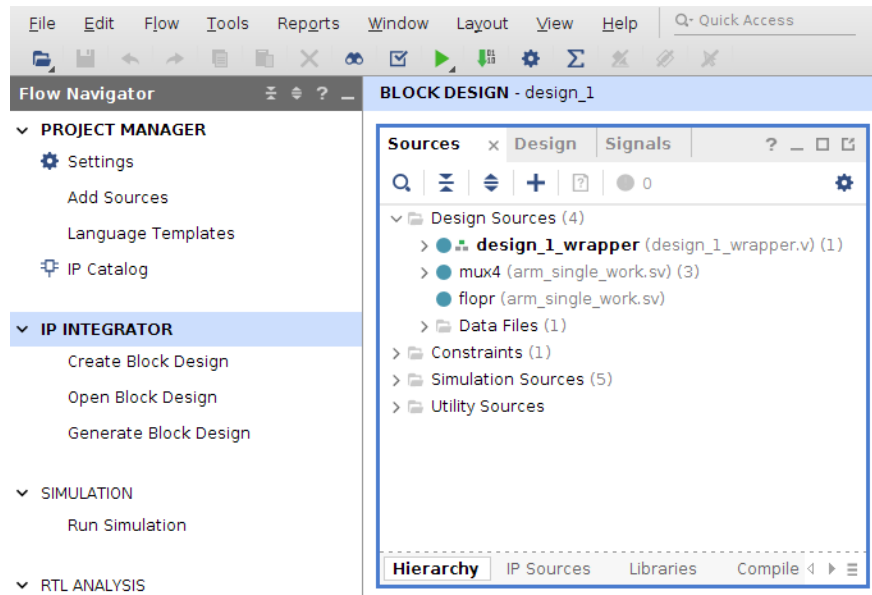

Figure 3: Open Block Design and Sources Window
If you need to make modifications to your files, you will need to do so in Vivado now because **the script will copy the file on your desktop into the project directory**. Modifications made to the file on your desktop will not be reflected in the project. Go to Open Block Design on the left panel and then select the Sources tab in the upper left window (Figure 3). You'll have to do a bit of digging through
1. Navigate to the sources view as explained in the previous section under step 5 and shown in Figure 3. You'll want to descend the source tree just like it was explained before, but this time open `imem.v` instead of `arm_single.sv`. Inside this file, you will find the following line:
1. Click Add Sources under the Project Manager heading on the left panel (Figure 3).